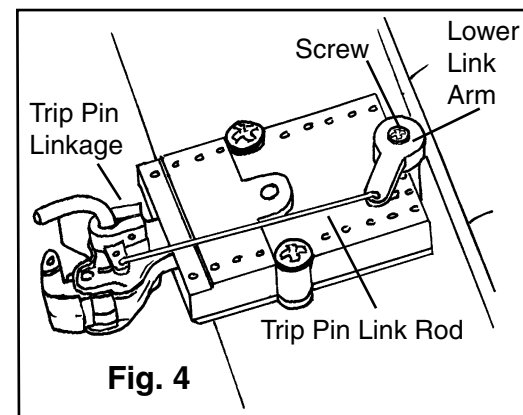

Fig. 4
**4)** Remove lower link arm, attach trip pin link rod(s), and reattach lower link arm. Securing lower link arm with screw. see **Fig. 4**